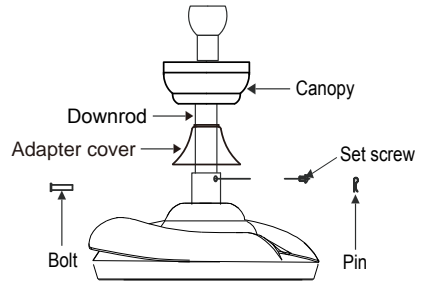

Fig. 2
Step 1. Assemble the canopy and adapter cover as Fig. 2.
Step 4. Align the holes at the bottom of the downrod with the holes in the collar on top of the motor housing (Fig. 2). Carefully insert the bolt through the holes in the collar and downrod. Be careful not to jam the bolt against the wires inside the downrod. Insert the pin to the end of the bolt (Fig. 2).